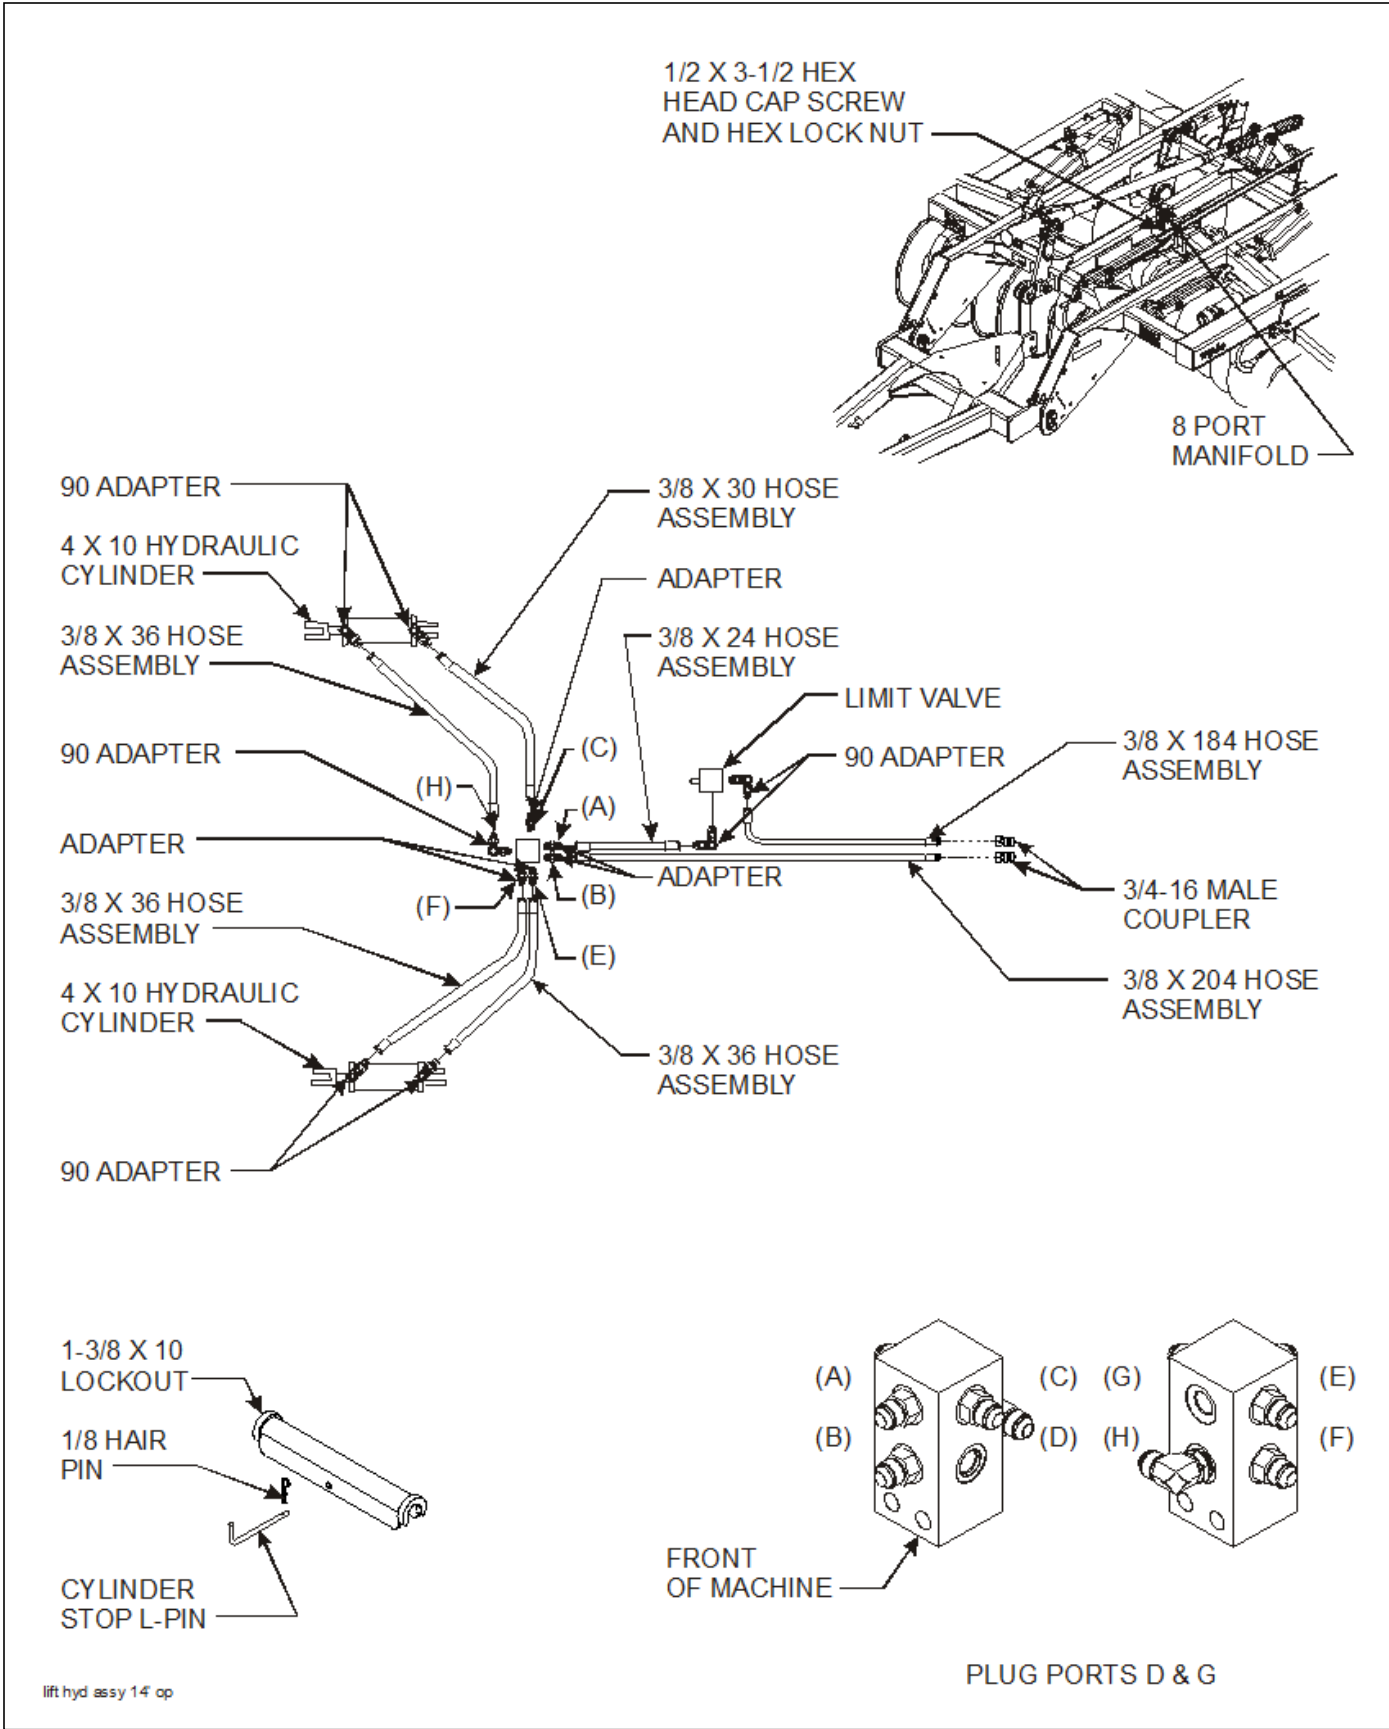

Figure 3-8: Lift Hydraulic Installation (14' Model)
Refer to Figure 3-8 for lift hydraulic diagram for 7410-14 model.
3. Install lift system hoses per **Figure 3-8**. Wrap lift system hoses with blue hose wrap.